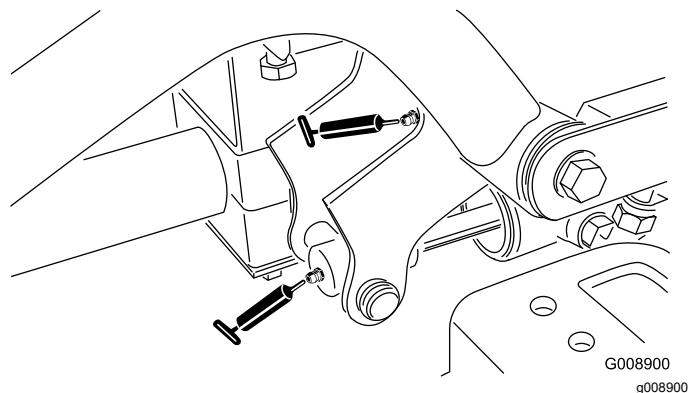

Figure 37
- Right front lift arm pivot and lift cylinder (2) (Figure 37)